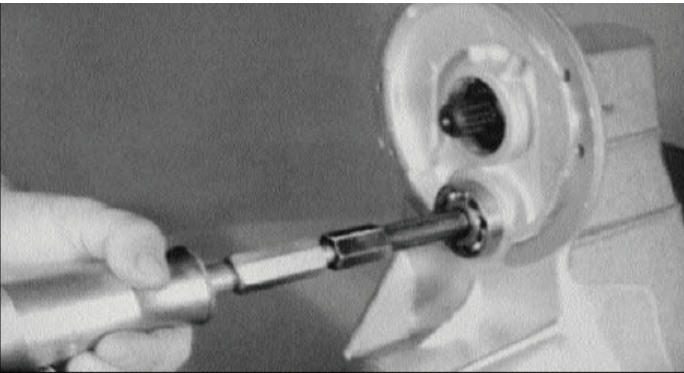

Figure 7-18. Removing Intermediate Shaft
14. Using a brass drift pin, drive the intermediate shaft (9) from the flange side of housing. Shaft should travel far enough to allow engagement of I.D. bearing puller.
15. Using an I.D. bearing puller attached to a slide hammer, remove intermediate bearing (11) from flange side of housing. See Figure 7-18.